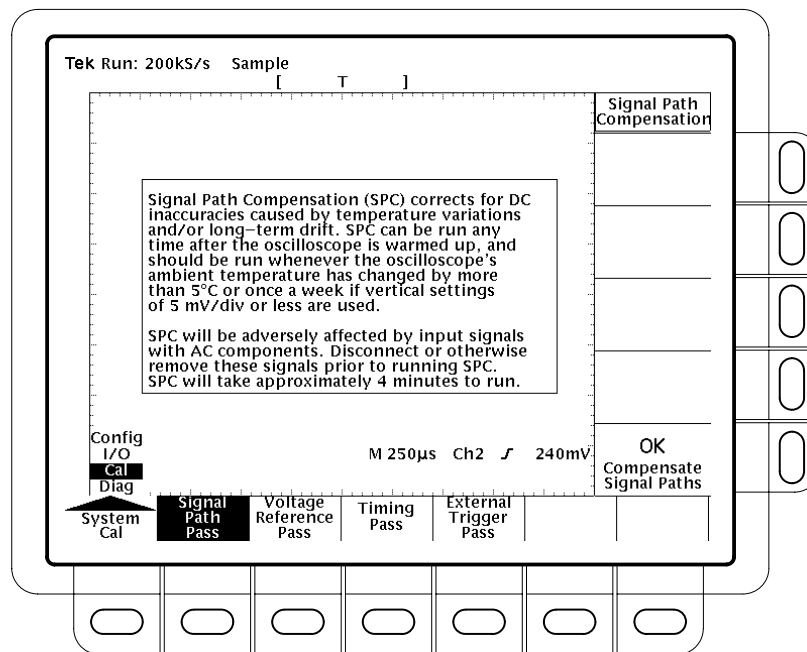

Figure 5–1: The system calibration menu
2. Press the leftmost main menu button until the pop-up menu shows the **Cal** selection. This calls up the system calibration menu, shown in Figure 5–1.